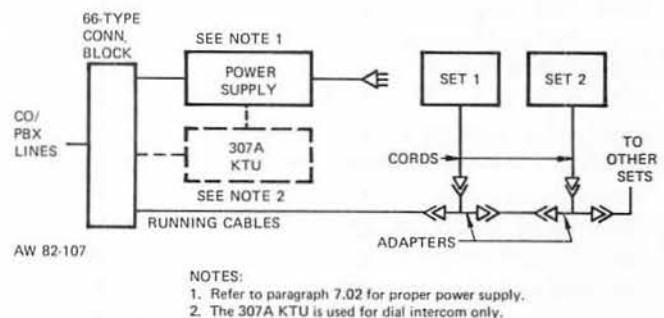

Figure 2: Optional Arrangements for 3-Line Telephones
7.02 A different power supply is recommended for each arrangement. An ITT 41-101 Power Transformer (9 VAC output) is recommended for the first arrangement. A commercial power supply with outputs of 9 VDC, 10 VAC and a signaling voltage (Lorain T-16A or equivalent) is recommended for the second arrangement. A key system type power supply is recommended for the third arrangement, which uses a 307A rotary, dial-selective intercom circuit. The power requirements for a 307A circuit are -24 VDC, 10 VAC and if ringing voltage is required, 105 VAC, 30 Hz. (See Figure 2.)